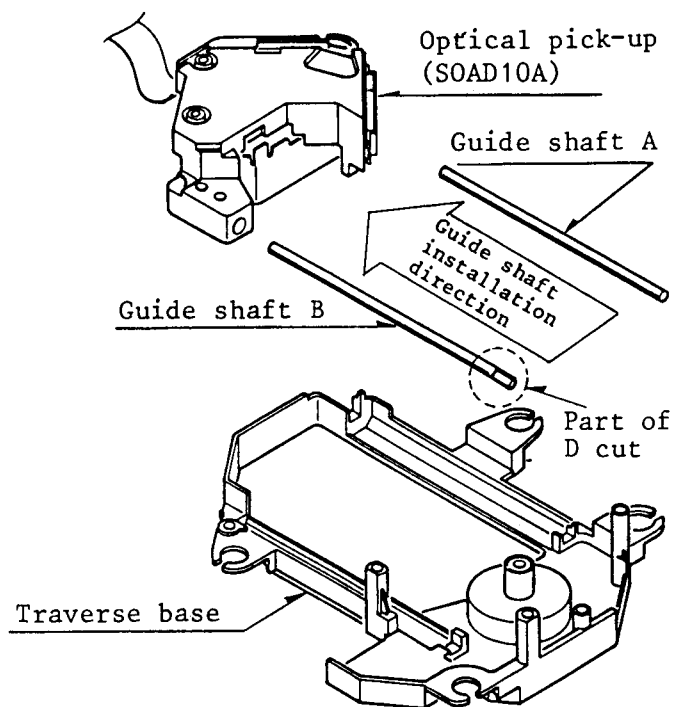

Fig. 3-6
- ① Must install the guide shifts to the pick-up in the direction shown by an arrow in Fig. 3-6, and install them to the traverse base.